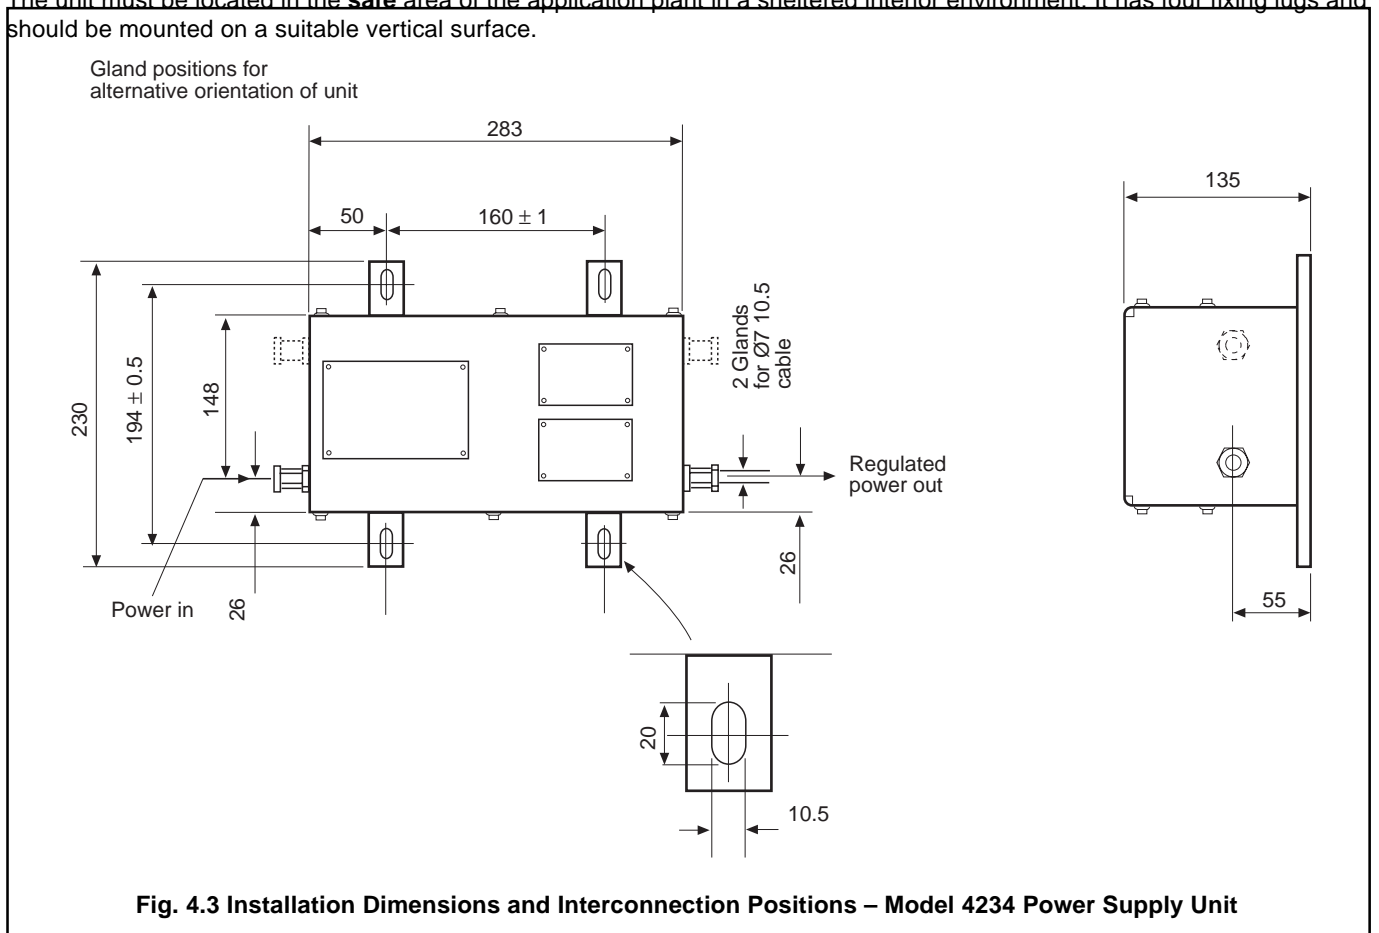

Fig. 4.3 Installation Dimensions and Interconnection Positions – Model 4234 Power Supply Unit
4.1.3 Model 4234 Power Supply Unit – Fig. 4.3